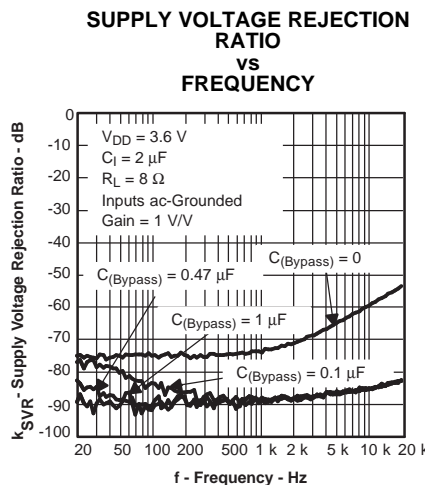

Figure 17.
- Mid-supply bypass capacitor,  $C_{(BYPASS)}$ , not required: The fully differential amplifier does not require a bypass capacitor. This is because any shift in the mid-supply affects both positive and negative channels equally and cancels at the differential output. However, removing the bypass capacitor slightly worsens power supply rejection ratio ( $k_{SVR}$ ), but a slight decrease of  $k_{SVR}$  may be acceptable when an additional component can be eliminated (see Figure 17).